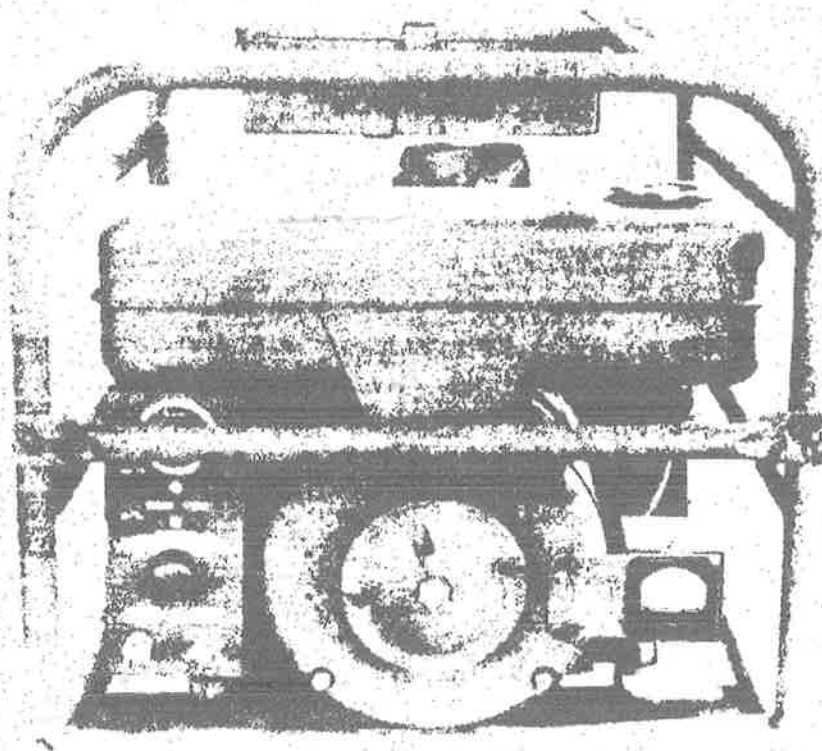

Figure 2. Rear view of ONAN AMERICAN OTC-5BII showing the control panel, rope sheave, frame, and location of tool kit and spare parts box.
a) When the plant is started manually, the starting rope must be wound around the rope sheave on the generator end of the unit. (See Fig. 2) in the direction indicated by the arrows on the pulley. The engine is cranked by pulling on the handle of the starting rope.
b) When the plant is started electrically, the batteries must be connected to the terminals on the control panel. Then by pushing the "Start" button on the control panel. (See Fig. 2) current from the batteries flows through the Series Field winding in the generator and through the armature. As a result of this current flowing through the generator windings, the generator starts to "motor" or revolve cranking the engine. If the self starter is used, the starter button should not be pressed continuously but in periods of not more than five seconds with equivalent stops in between until the engine starts.